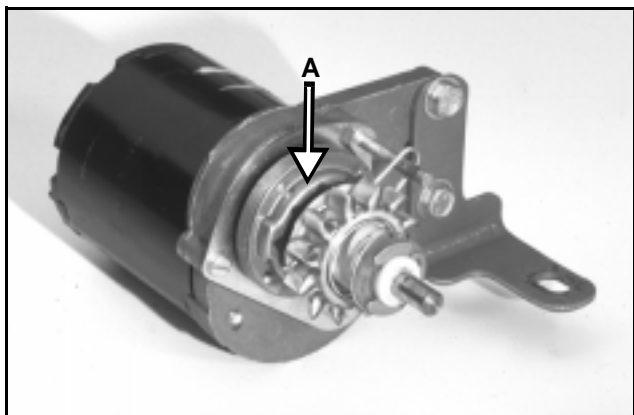

Figure 98
1. Slide the pinion/clutch assembly (A) off the pinion shaft. Remove the retaining ring from the pinion/clutch assembly and disassemble completely. Inspect all parts for wear or damage and replace as needed. (See Figure 98.)